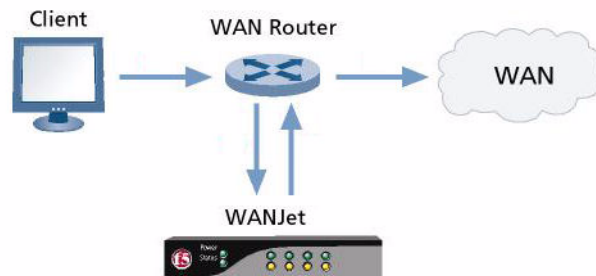

Figure 6.2 One-arm deployment
2. Position the WANJet appliance so that it connects to a router that is inline, connecting the WAN port of the WANJet appliance to the router (see Figure 6.2).